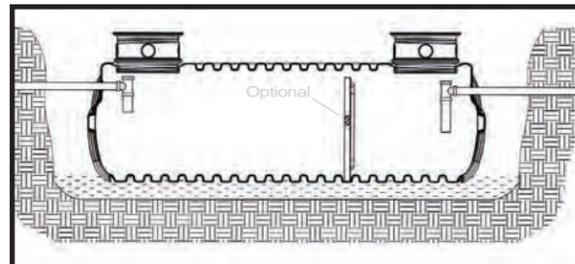

FIG. 3 Plumbing Install
- Install the inlet and outlet tees, as required. (Fig. 3) Plumbing tees shall be located as close to the entrance point of the tank as possible (just inside the manway opening). Plumbing tees and gas-baffles are factory provided for Indiana tanks.
- Install the required Roth threaded Septic Access Riser System (STAR™), provided separately. (Fig. 3) See reverse for directions for sealing the riser system.
- Using the corner lifting holes, lower the tank into the excavation. Level the tank, and verify the outlet is lower than the inlet. Install remaining inlet and outlet plumbing. (Fig. 3)